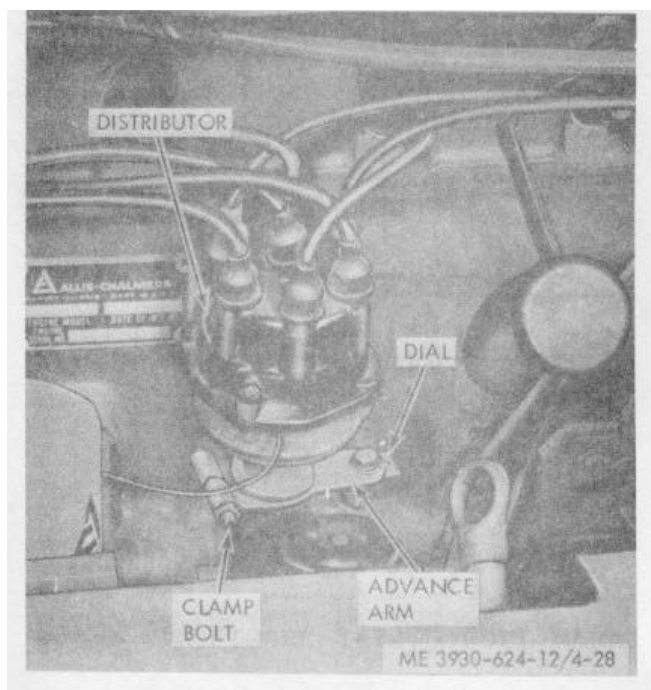

Figure 4-28. Distributor timing adjustment.
(1) Loosen the screw at the distributor advance arm and set the pointer at 0 (fig.4-28).